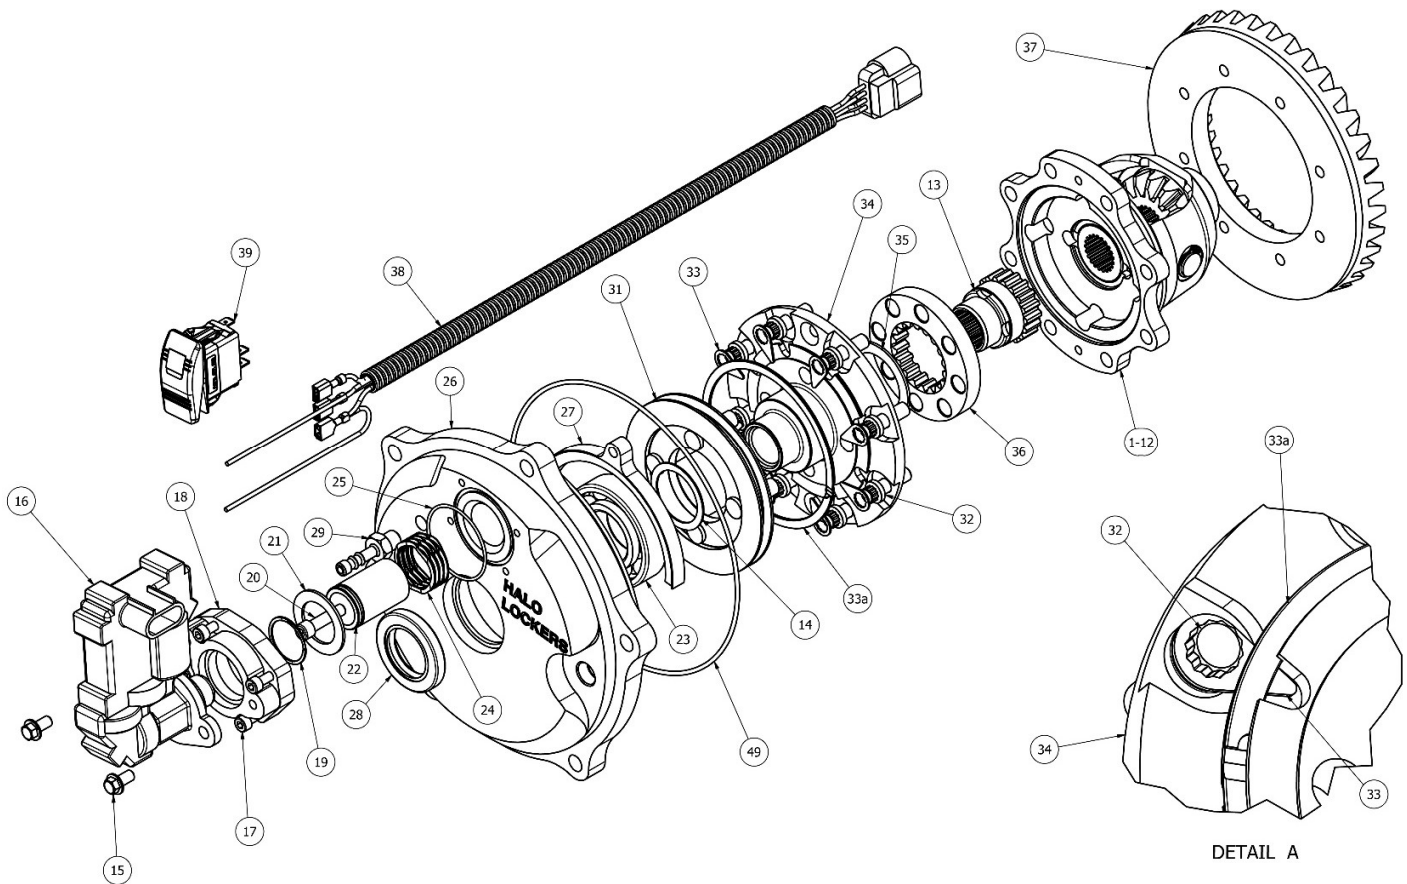

Figure 3
7. Remove screws (12) and remove carrier cap (10) from carrier (1). Screws (12) will not be used for reassembly, they are now unnecessary and could loosen/come out and causing damage.
8. Visco gear (13) will be stuck in cap (10), remove Visco gear (pry out with flat screwdriver if needed) and save for reinstallation later.
9. Remove all clutch plates and discs (8), (8a), (9) from carrier (1). Be sure to remove all clutch plates/discs it is common to miss one.
10. Prior to 2018 many differentials used plastic conical thrust washer (4) they should be replaced in step 11. If your carrier already has steel conical thrust washers you can skip step 11.
11. Remove cross shaft clip (7) and cross shaft (6) being careful not to misplace any shims behind axle shaft gears (3). Replace conical thrust washer (4) with the ones supplied in kit and reinstall shaft (6) and clip (7).
12. Between axle gear (3) and the carrier case there is a shim from factory. Replace this shim (.032") with the slightly thicker shim (.039") supplied in the kit. This will improve the gear backlash for the gear assembly and help take slop out of the passenger side axle.
13. Use Figure 3 to reassemble differential with locker kit.